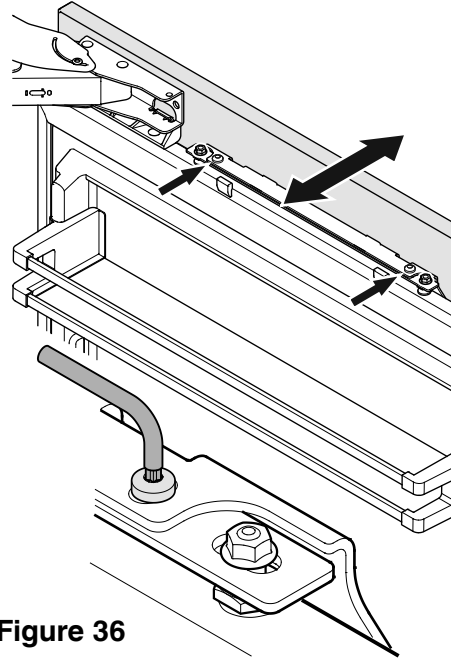

Figure 36
10. Loosen the three screws on the top of the attachment bracket, align the panel as shown in Figure 36 and tighten the screws. This can also be done with the lower attachment bracket.